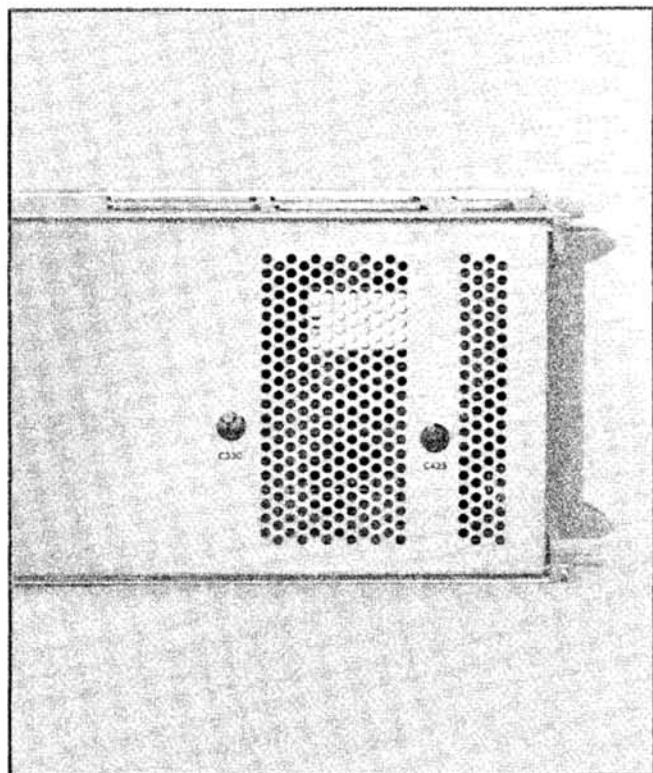

Fig. 5-6. Right side of 7A22 showing location of adjustments.
- ADJUST—With the frequency set to 1 MHz, adjust C425 for 4.2 div of display amplitude. See Fig. 5-6 for location of adjustment.
- h. Adjust C330 (and C144 SN B080000 and up) for minimum vertical deflection. See Fig. 5-6 for C330 location. C144 is under the plastic cover near Q153 on the left side of the 7A22 (see Fig. 4-6, page 4-10).